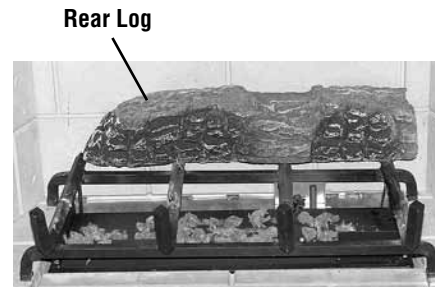

Figure 11
Proper log placement is critical to prevent soot-ing. Carefully position the ceramic fiber logs over the burner as described in the following steps, and detailed in **Figures 11 through 15**.
Step 2. Place the hole at the bottom of the Rear Log over the pin at the rear of the log grate, as shown in **Figure 11**. The log should rest against the back refractory.